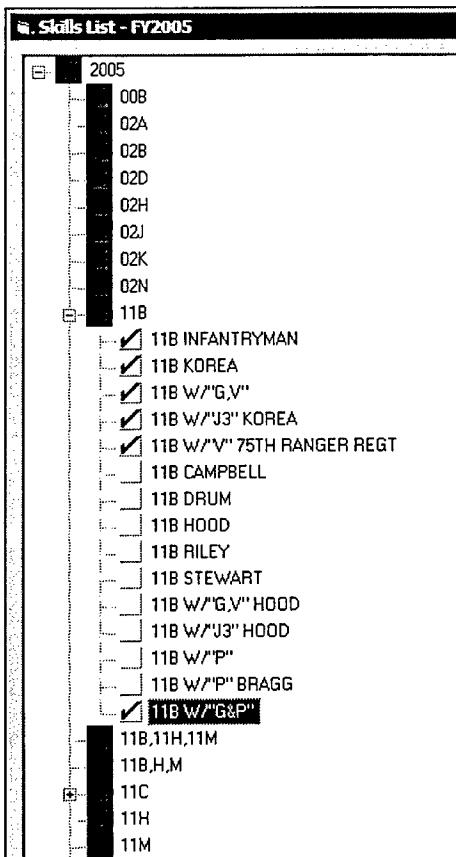

Figure 27. Updated Skill List
5. When you are finished defining the skill, click the Add button. If the skill already exists in the database you will be notified. Note that the new skill will not appear in any plans until you have activated it from the *Edit/Skill List* function (Figure 27).